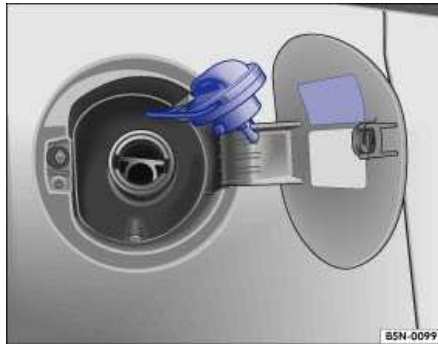

Fig. 3 Open fuel filler flap showing the cap hooked to the flap.
- Hang the fuel cap on the filler flap as shown ⇒ Fig. 3.